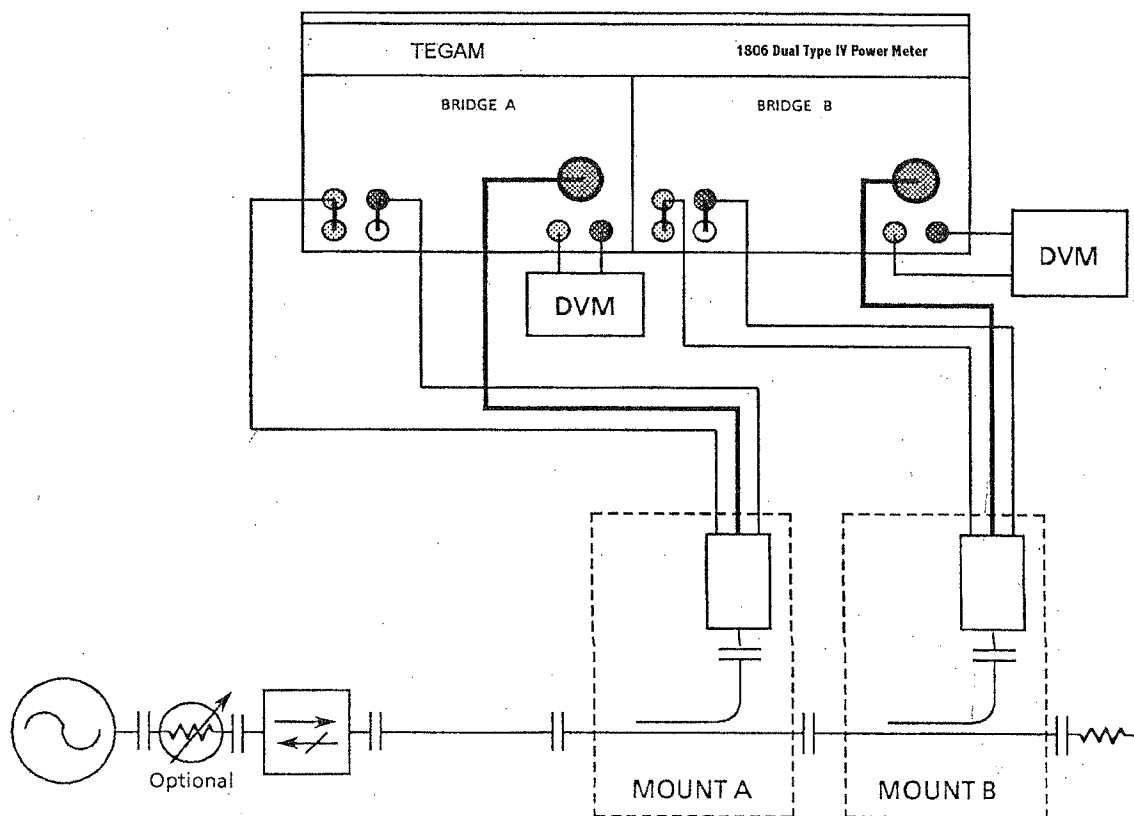

Figure 3-1 Equipment Setup for Transferring a Known Calibration Factor to Another Mount
Figure 3-1 illustrates the equipment setup required to transfer the calibration factor of a known mount to a second mount. These procedures are identical for both the Models 1107-7 and 1107-8 with the exception of the equipment required. Table 3-1 lists the equipment required when performing these procedures using the Model 1107-7 (18.0 to 26.5 GHz range) and Table 3-2 lists the equipment required when using the Model 1107-8 (26.5 to 40.0 GHz range).
- B. With all power removed, construct the setup illustrated in Figure 3-1. Use the shorting jacks supplied with the Model 1806 to short its BOLOMETER and SENSE connectors.